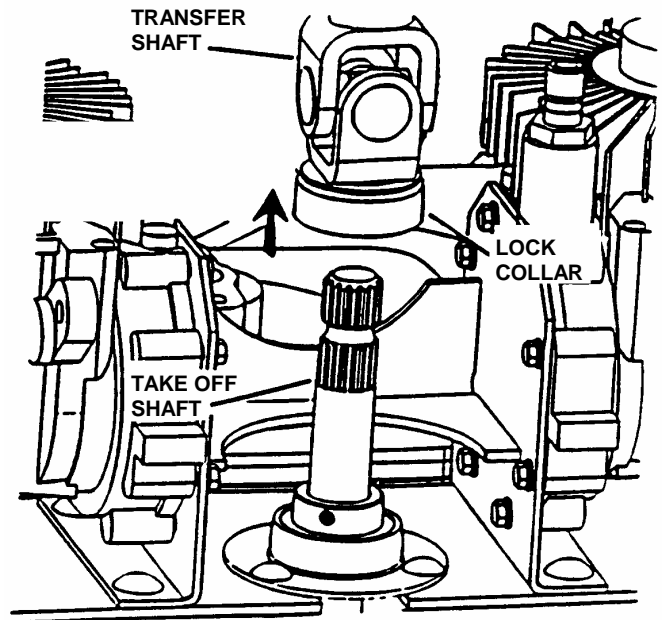

FIGURE 3.12
6. Pull lock collar back and slide power transfer shaft away from power take off shaft (located on power unit below hydro pumps). See Figure 3.12.
Engage parking brake. Turn engine "OFF" and remove key. The power transfer shaft connects the power unit to the mower deck. The shaft is telescoping for easy removal. Slide locking collar back toward mower deck and shaft will slide off. See Figure 3.12.